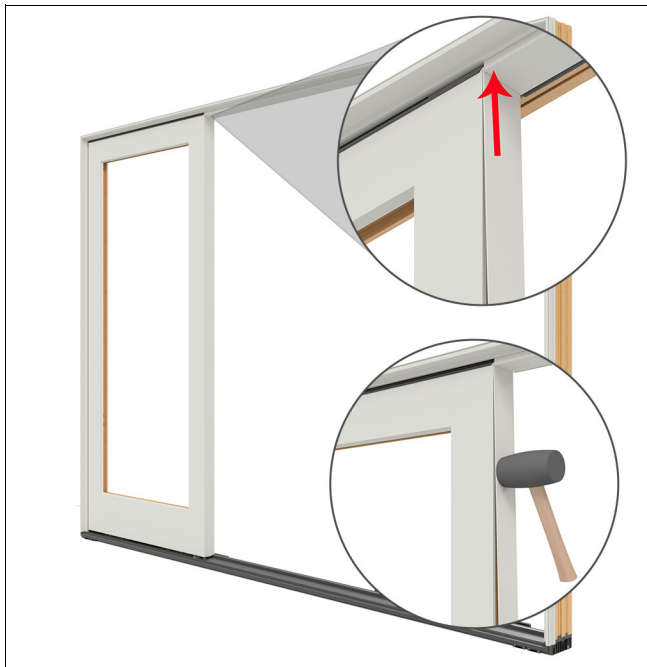

Figure 25
9. Install the aluminum stationary stile edge cover. The edge cover will slide up in between the head jamb parting stop and the stationary panel. Tap into place with a rubber mallet. See Figure 25.